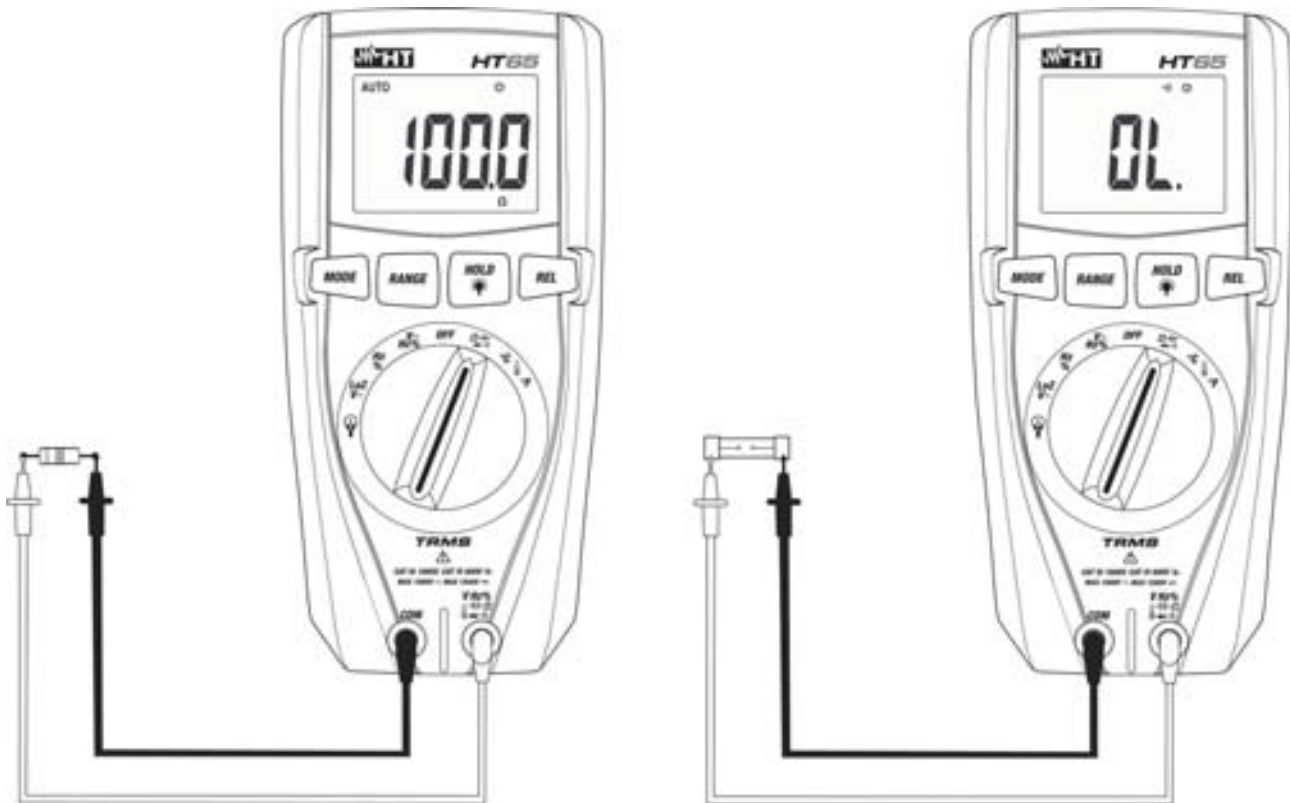

Fig. 6: Use of the instrument for Resistance measurement and Continuity test
3. Position the test leads in the desired spots of the circuit to be measured (see Fig. 6). The display shows the value of resistance.